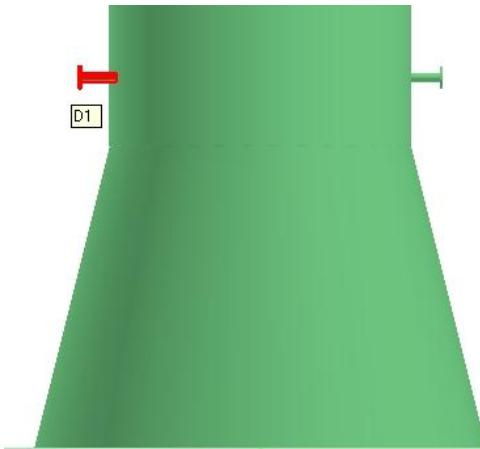

Figure 4. 50: Located Nozzle D1
5. The **New Pipe Run** dialog box appears, as shown in Figure 4. 51. Select **302-W** in the **Pipeline** field. The system automatically selects the other parameters by using the piping specification. The specifications in the **New Pipe Run** dialog box are as follows: